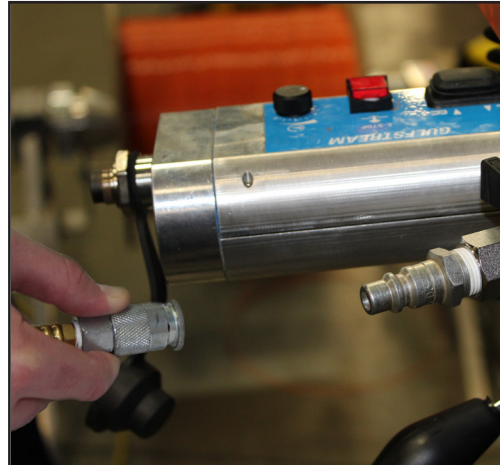

Figure 26. Depressurize Air Block
2. Remove Air Hose from GS300QC (See Figure 26).